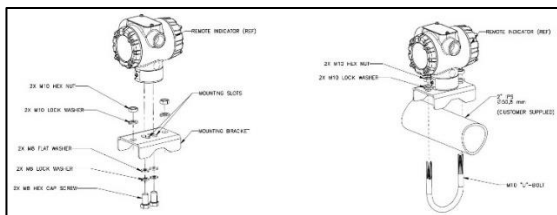
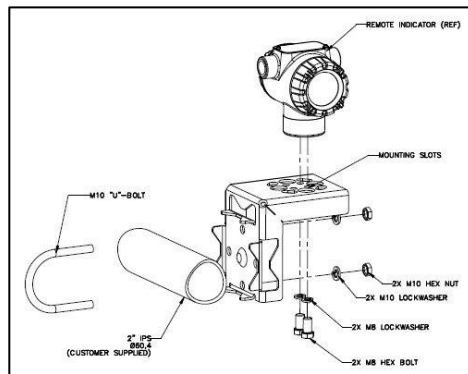
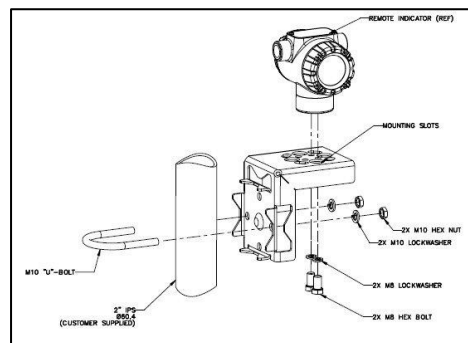

Figure 2: Typical Pipe Mounted Installations
Figure 3: Pipe Mount - Horizontal Mounting Bracket
Figure 4: Pipe Mount - Vertical Mounting Bracket
1. Pipe Mount Option -Refer to Figure 2, Figure 3 and Figure 4. Align the two mounting holes at the bottom of the Remote Indicator with the two slots in the mounting bracket and assemble the (2) M8 hex cap screws, (2) lock washers and (2) flat washers provided.
Position the bracket on a 2-inch (50.8 mm) horizontal or vertical pipe and install a "U" bolt around the pipe and through the holes in the bracket. Secure the bracket with (2) M10 hex nuts, (2) flat washers and (2) lock washers provided. Refer to Figure 4.